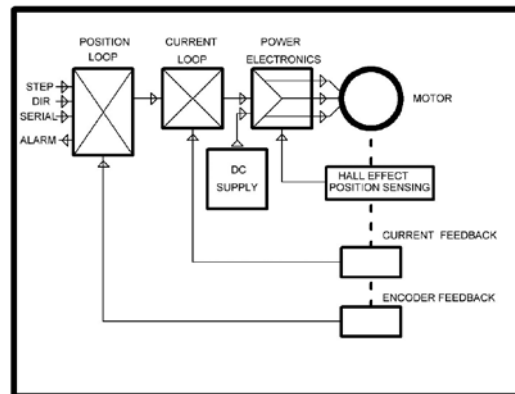

Figure 5: Step and direction or serial control.
**See Figure 5:** The external controller supplies step and direction signals in the same way as would happen with a step motor system. Each time a step pulse is received, the direction input is checked, and the motor rotates in the appropriate direction. When configuring the drive settings via the serial port, the permissible following error can be set. When this error is exceeded, the motor is stopped and the alarm output is set so the controller is aware that position has been lost. This feature is not available with an open loop step motor system. Note that this control method allows a mixture of servos and steppers to share the system.
**See Figure 5:** It is possible to implement a control language strategy via the serial port. Although flexible and comprehensive, this scheme requires the system integrator to learn an arcane supplier-specific control language. Mixing and matching of drives is not possible.